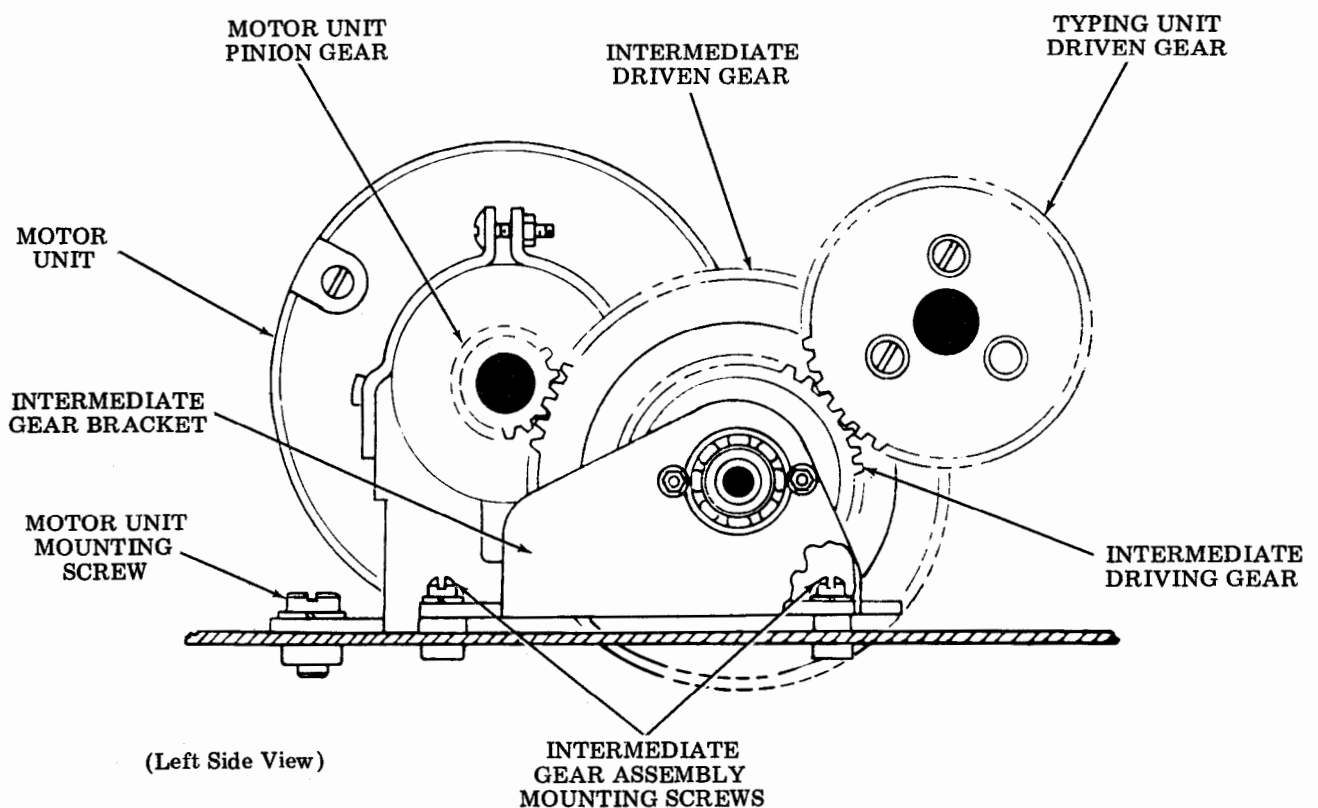

Figure 9 - Intermediate Gear Assembly
4.04 The motor intermediate gear assembly (Figure 9), and the typing unit driven gear should rotate freely without friction between the gears. The backlash should be barely perceptible as outlined in the requirements in the following paragraphs.